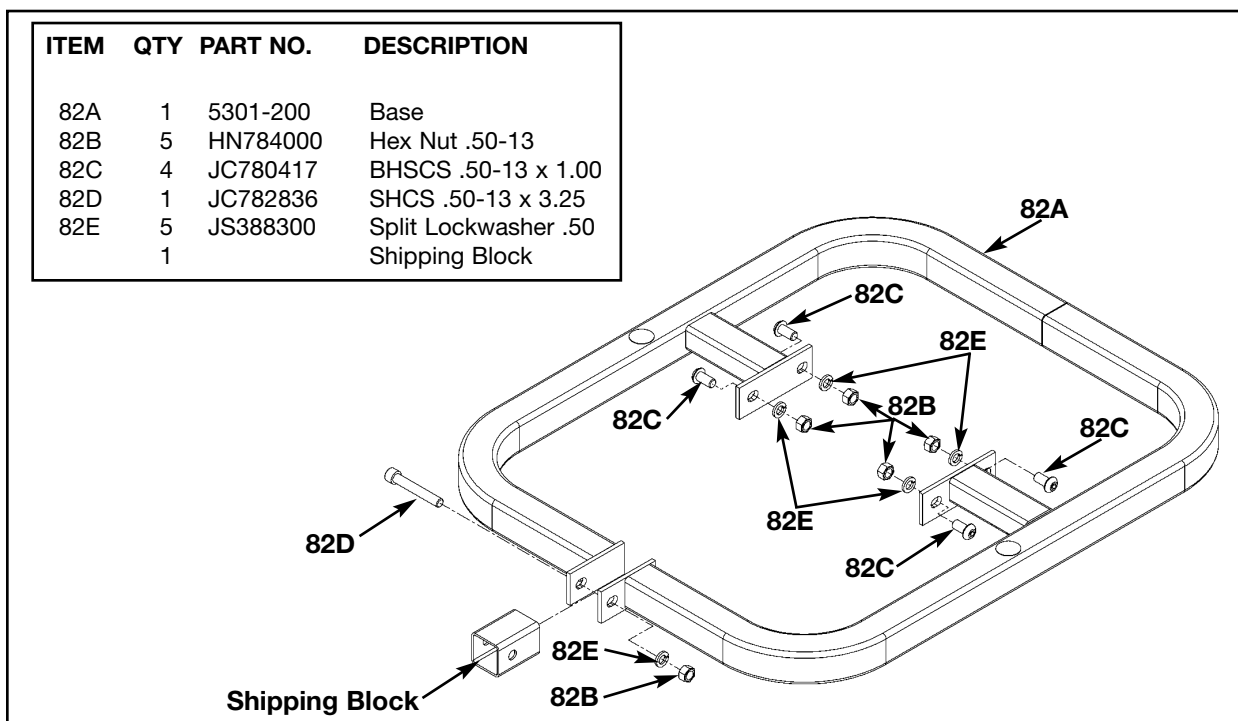

Figure 9
4. Attach column to the appropriate configuration (see steps 4A - 4E, Figures 9 and 10).
- B.** Remove the hardware from the base (#82A) as shown in Figure 9.